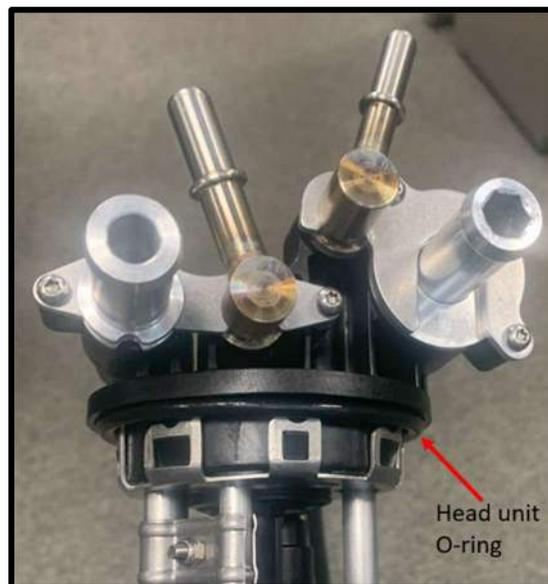

Figure 2.6 Head Unit O-ring
- 4) Before installing the head unit, make sure the new head unit has an O-ring pre-installed as shown in **Figure 2.6**. Silicone based lubricant must be applied to the O-ring before installation.